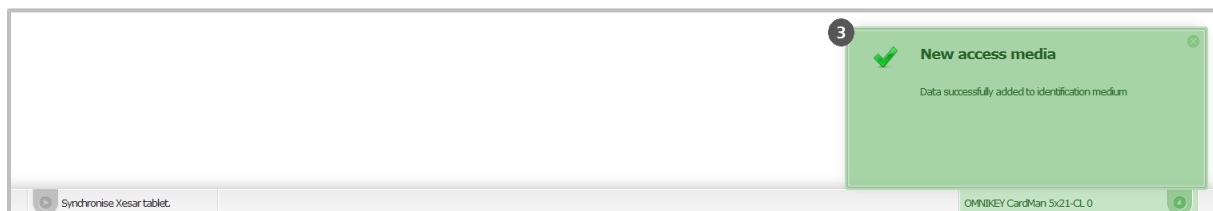

Figure 112: Access medium created successfully
The status line confirms having successfully completed the write process ③ (Figure 112: Access medium created successfully). The Xesar identification medium is now ready for operation.